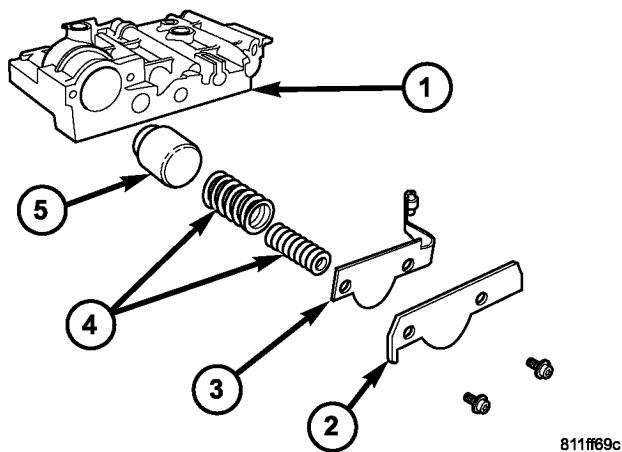

Fig. 345 2/4 Accumulator Assembly
(5) Remove 2/4 Accumulator components as shown in (Fig. 345).